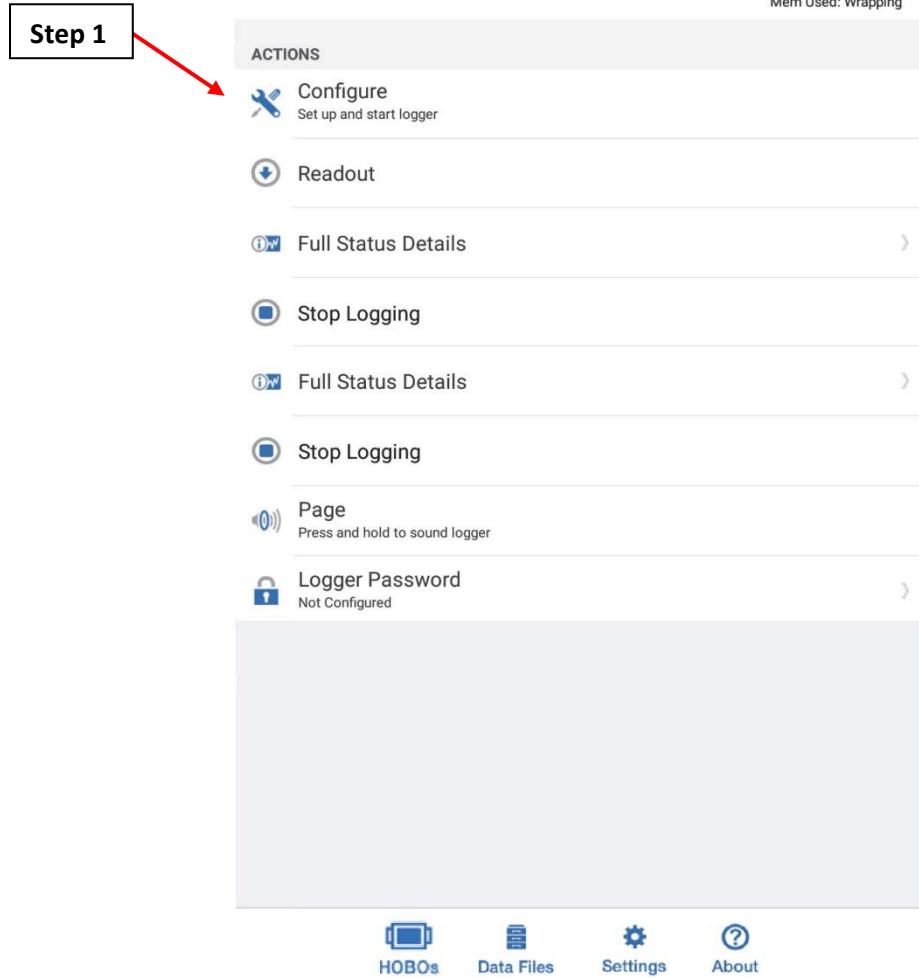

Figure A.6.3: HOBOMobile “Connected” screen.
1. After connecting to the MX1101 Data Logger by following section A.6.1, tap the “Configure” option (Figure A.6.3).